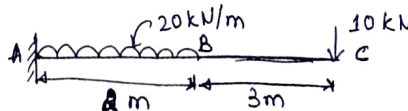

Fig.Q3(b)
b. Draw shear force diagram (SFD) and bending moment diagram (BMD) for given beam in Fig.Q3(b).